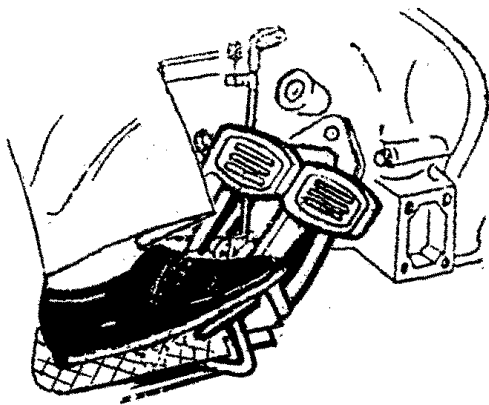

Fig.4-11 Foot Throttle Control
- a. Reduce the foot throttle to slow down the speed of the tractor(Fig.4-11)